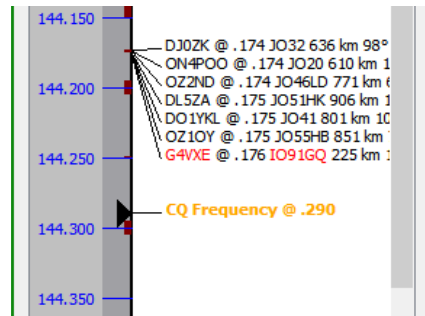

Figure 141 – Run frequency marker
- If operating in Run mode, the current Run frequency is marked on the display¹³⁷ as **‘CQ Frequency’**, with the fractional frequency appended (see Figure 141); the marker changes colour if the rig moves off the run frequency.